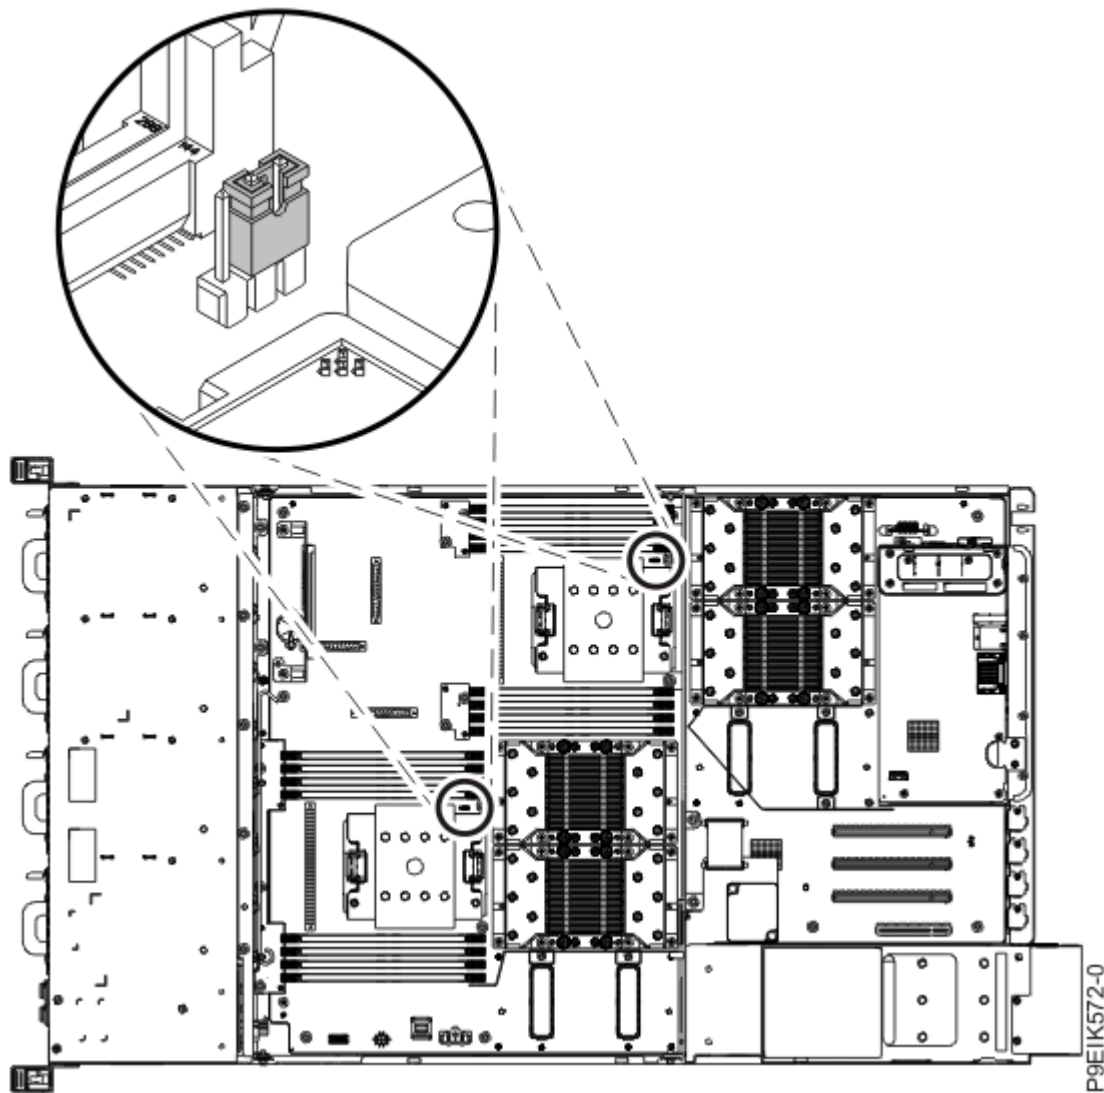

Figure 129. System processor jumper positions
5. Install the system processor jumpers on the system backplane as shown in Figure 129 on page 161.